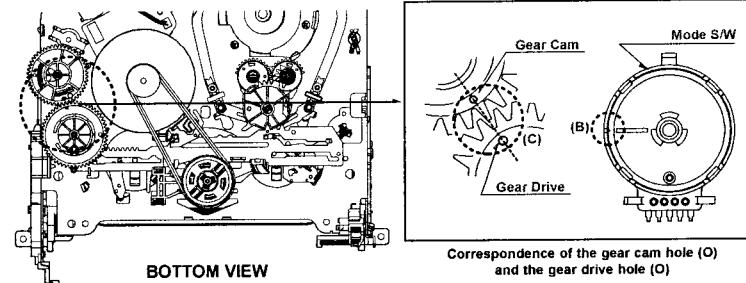
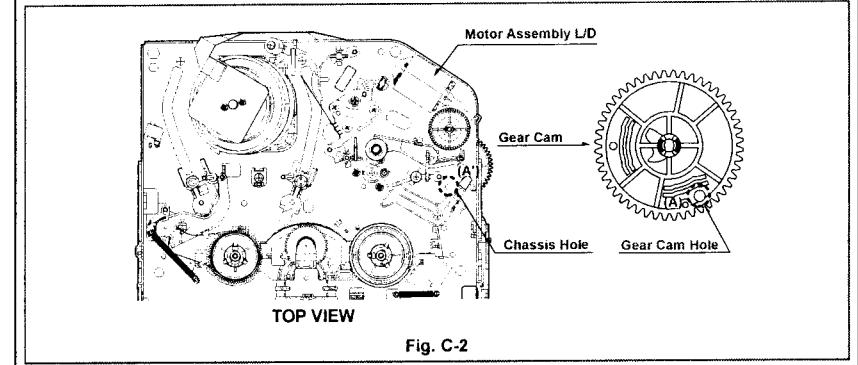

Fig. C-1
Fig. C-2
1) Turn the VCR on and take the tape out by pressing the eject button. 2) Separate both top cover and plate top, and check both the hole (A) of gear cam and the hole (A') of chassis correspond (Fig. C-2). 3) If it is done as in the paragraph 2) Turn the gear cam as in No.2) after mantling the motor assembly L/D. 4) Undo the screw fixing the deck and the main frame, and separate the deck assembly. Check both the hole (A) of gear cam and the hole (A') of chassis correspond (Fig. C-1). 5) Check the mode S/W on the main P.C. board locates at a proper position as in (B) of the Fig. (C-1). 6) Connect the deck to the main P.C. board and perform all types of test.